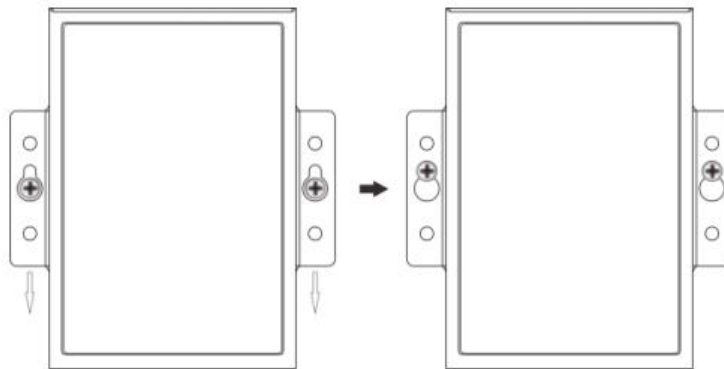

Fig. 1 Wall mount installation
- ✧ Align the wall mount plate over the screws on the wall. Hang the device on two screws and slide it downward to lock in place, then tighten the screw to enhance stability, see the following Fig.1.